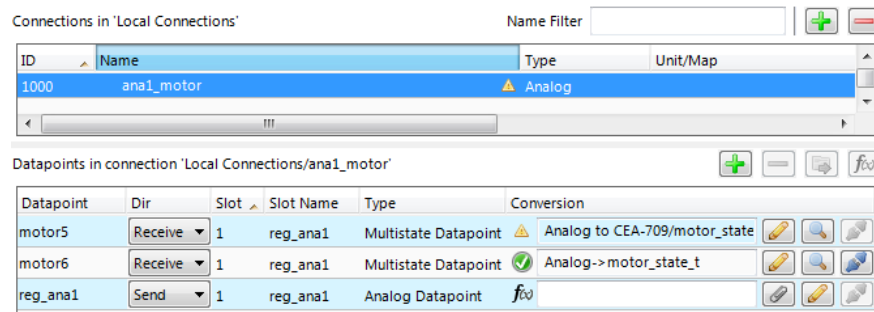

Figure 174: Connection tab with a connection and data points.
- Now the connection tab contains the new connection and below the list of data points in that connection as shown in Figure 174.